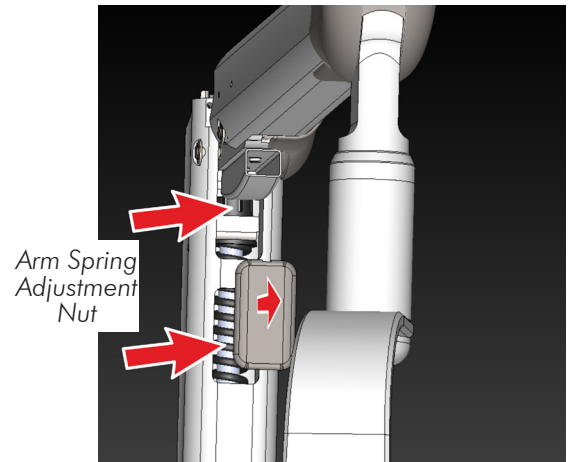
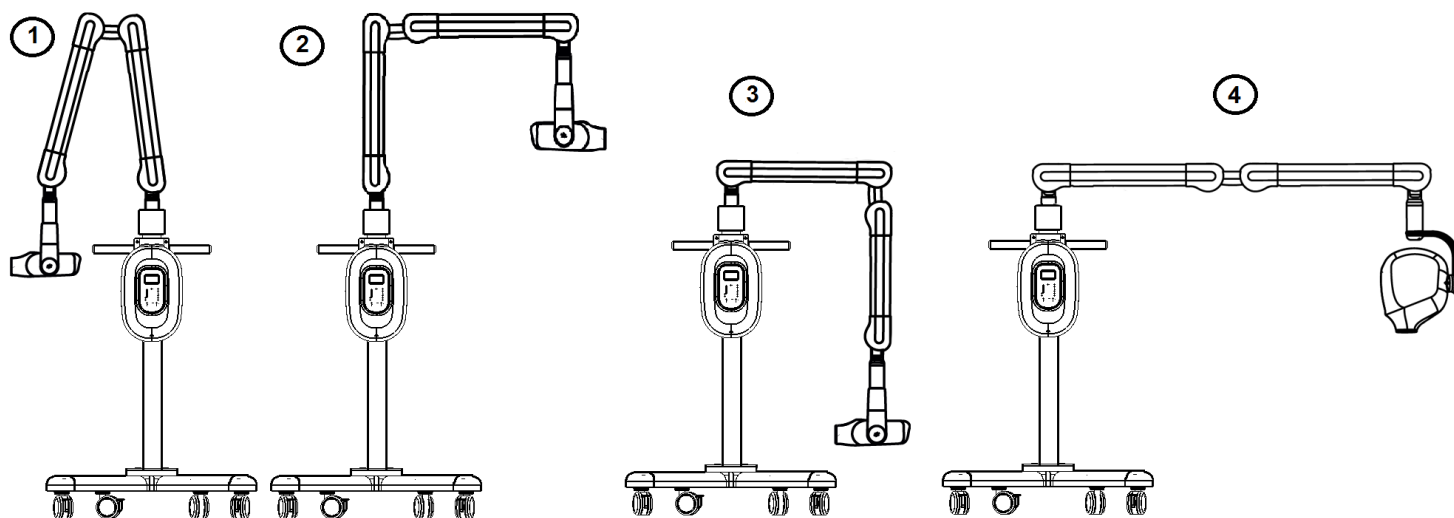

Figure 19
Figure 20: Scissor Arm movement check
Remove rectangular caps from the spring adjusting windows of the Scissor Arm as shown in Figure 19 .
Step 1:- Keep vertical arm in vertical position and the horizontal arm in horizontal position as shown in the in Figure 20(illustration 2). The scissor arm should not droop from its position. If it droops, tighten the horizontal arm spring using screwdriver through the spring adjustment window (by tightening the slotted nut as shown in Figure 19).
Step 2:- Keep the scissor arm with both arms vertical (folded position) as shown in the Figure 20(illustration 1). The Scissor Arm should stay in its locked position without moving or drifting. If unstable, replace the Scissor Arm.
Keep the vertical arm in horizontal position and horizontal arm in vertical position as shown in the Figure 20 (illustration 3). Both the arms should stay in position without moving. In this position the horizontal arm is in locked position and no adjustments are required for the horizontal arm. If the vertical arm is unstable adjust the vertical arm spring by loosening (by loosening the slotted nut) using screwdriver through the spring adjustment window as shown in Figure 19.
If it droops, tighten the vertical arm spring using screwdriver through the spring adjustment window (by tightening the slotted nut). Once it reaches Step 3 position, if the Vertical arm moves up (unstable) then adjust the vertical arm spring by loosening (by loosening the slotted nut) using screwdriver through the spring adjustment window as shown in Figure 19. Repeat the "Movement Check-1" procedure to reconfirm or fine tune adjustments.